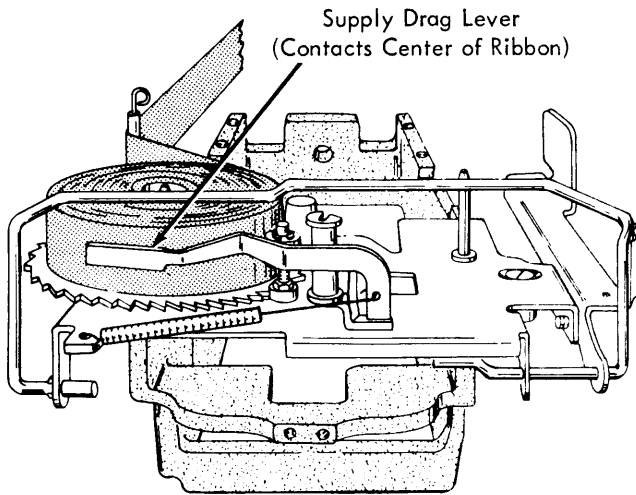

FIGURE 202. Supply Drag Lever
3. **Supply Drag Lever** - The supply drag lever must contact the outer wrap of ribbon on the supply spool at the center or slightly above (Fig. 202). Form the lever up or down to obtain this condition. Do not form it front to rear.